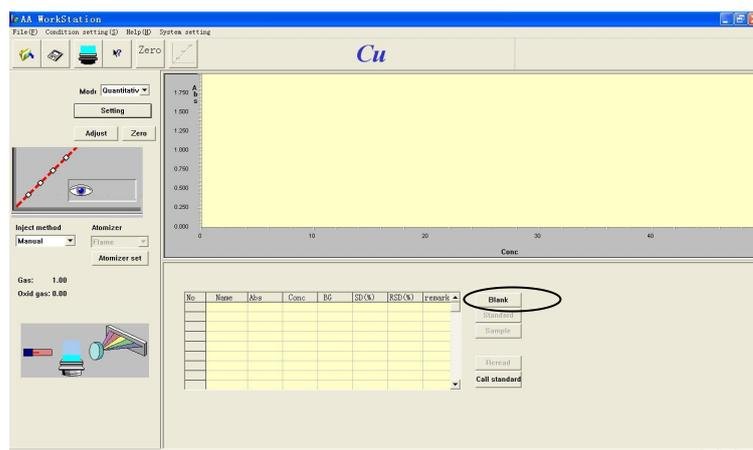

Figure 5-10
7. Press "OK" to close the dialog. Now, the "Standard blank" button should be enabled. See Figure 5-10.